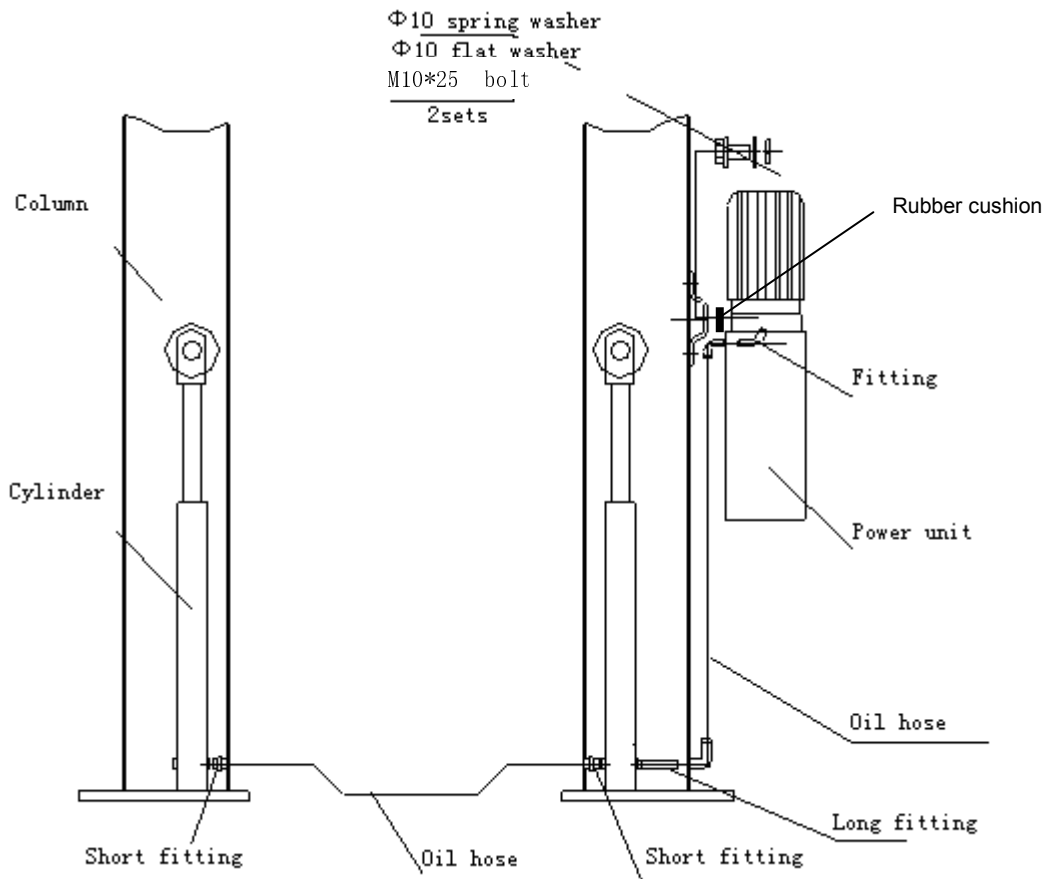

Fig. 14
- Use two M10 bolts and washers to fix the power unit (as shown in Fig.14). for 30-9TPFP-LT models, install the hydraulic line as shown in Fig. 14 and tighten all the fittings to prevent oil leakage.